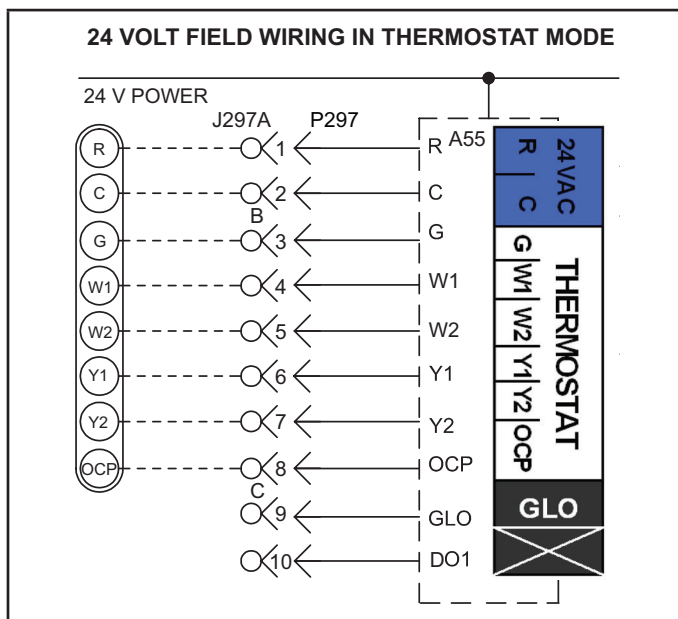
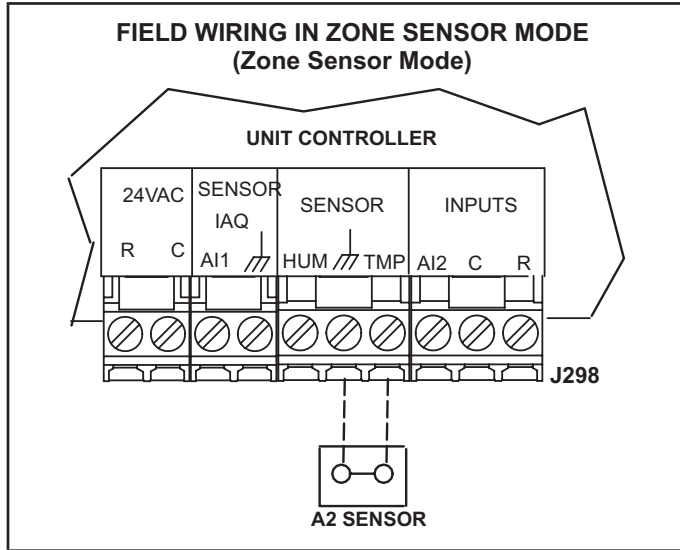

FIGURE 16
FIGURE 17
- 4 - Wire as shown in FIGURE 16 for electro-mechanical and electronic thermostats. If using other temperature control devices or energy management systems see instructions and wiring diagram provided by manufacturer.
The Unit Controller will operate heating and cooling based on the Unit Controller internal setpoints and the temperature from the A2 room sensor. An optional Network Control Panel (NCP) can also be used to provide setpoints. A thermostat or return air sensor can be used as a back-up mode. Make room sensor wiring connections as shown in FIGURE 17.
Make wiring connections as shown in FIGURE 16 for Thermostat Mode or FIGURE 17 for Zone Sensor Mode. In addition, connect either a humidity sensor or a dehumidification input. See FIGURE 19 or FIGURE 20 for humidity sensor wiring or FIGURE 18 for dehumidification input wiring.